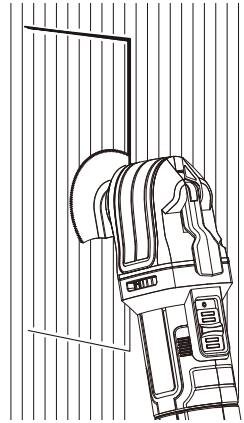

Fig. 18
- > When using the segment saw blade (9), apply light pressure in the cutting direction and move the product forward along the cutting line at an even speed (Fig. 18).